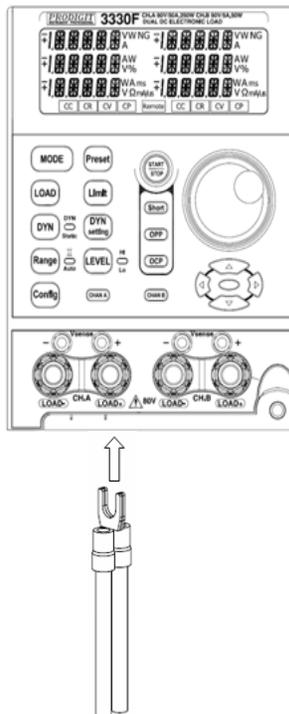

Fig 3-3 Hook Terminal Y type large size terminal connections
- 3.3.2 Spade terminals: The spade terminal provides a good contact to the binding post, It is recommended to use anytime. The maximum wire gage 10 can be used in this Application as show Fig3-3 and Table 3-5.